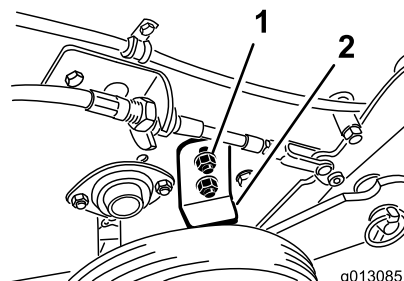

Figure 19
2. Loosen the nuts securing the wheel stop on the right side of the machine (Figure 19).